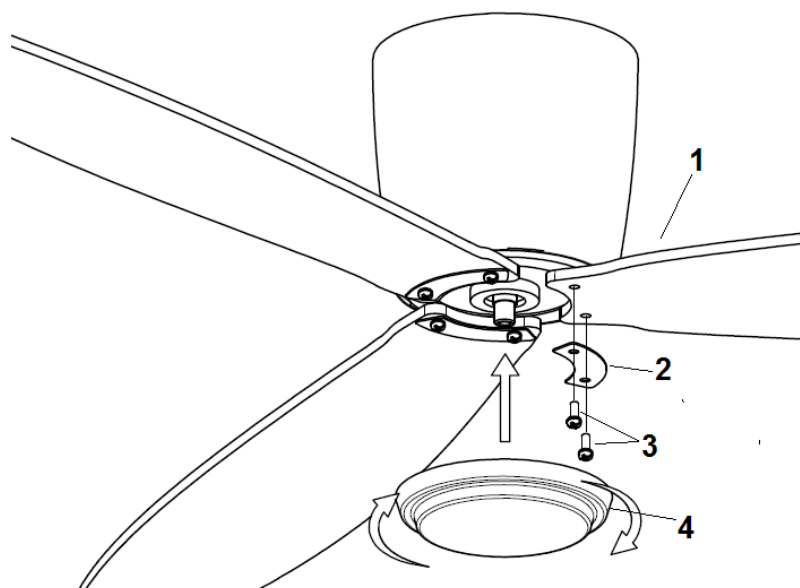

Fig. 6
- Insert the blade screws through the blade assembly in the following order - bracket kit (2) and blade (1). Attach the blade assembly to the motor and secure it by tightening the 2 screws (3). **Fig. 6**
- Finally install the bottom cover (4) to the shaft of the motor by rotating it clockwise.